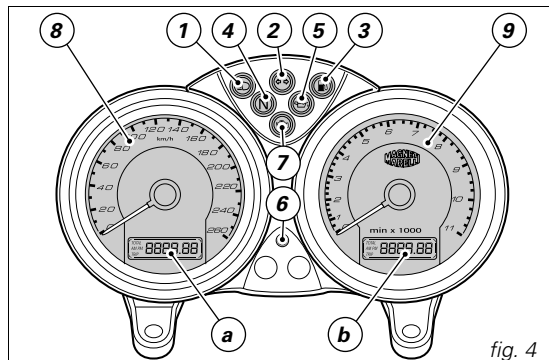

fig. 4
Instrument panel (fig. 4)
In case of faulty immobilizer system, the following procedure gives the chance to disable "engine block" function - signalled by the yellow amber **EOBD** warning light that comes on (7, fig. 4).
- 1) Turn the key to ON and fully open throttle. Keep it open. The EOBD warning light (7, fig. 4) turns off after 8 seconds.
1) if the CPU recognised the code, the light (6, fig. 4) on the instrument panel will flash briefly. This means that the immobilizer system has recognised the key code and enabled engine ignition. When you press the START (2, fig. 13) button, the engine will start up.
2) if the light (6, fig. 4) or EOBD light (7, fig. 4) stay on, the code has not been recognised. When this is the case, turn the ignition key back to OFF and then to ON again. If the engine still does not start, try with the other black key. If the other key does not work out either, contact the DUCATI Service network.
3) Should the light (6, fig. 4) still be flashing, it means that an immobilizer system fault was reset (e.g. with the overriding procedure through throttle grip). Turn the key to OFF and back to ON, the immobilizer pilot light should go back to its normal operation (see point 1).